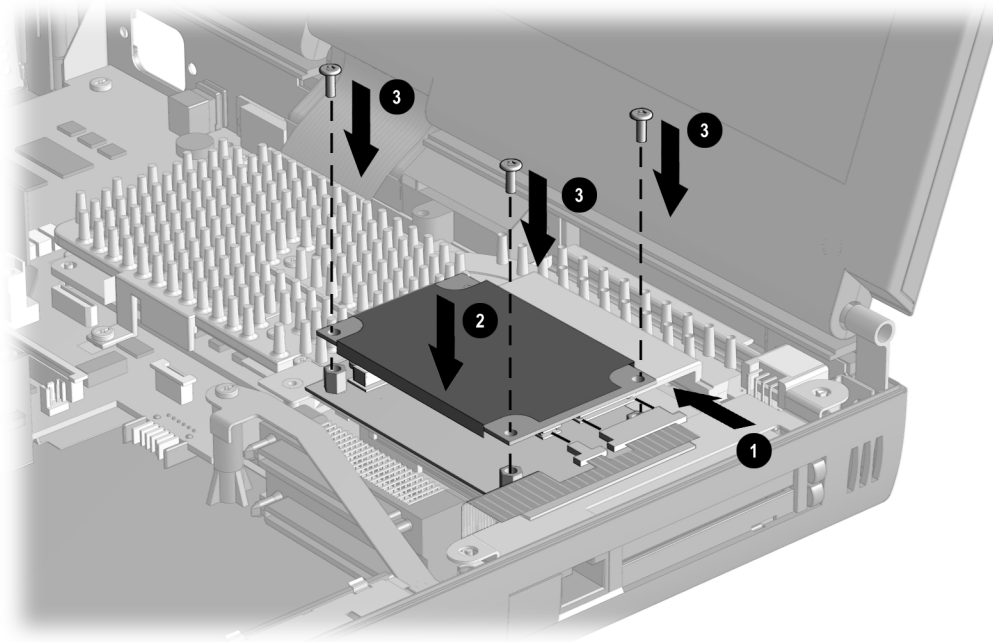

Figure 5-44. *Installing a Modem/Combo Card*
7. Connect the appropriate cable(s) from the RJ11 modem/RJ45 NIC connector assembly ❶ to the connectors on the modem/combo card (Figure 5-44).
8. Connect the modem/combo card to the mini PCI riser board ❷.
9. Install the three screws to secure the modem/combo board to the mini PCI riser board ❸.